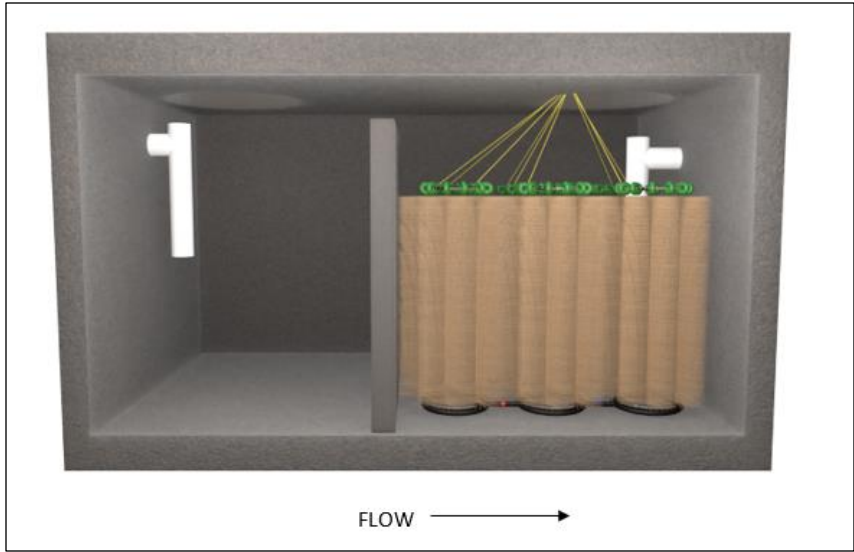

Figure 16, Finish Stack of Bio-Brushes
4. After all clusters are unpackaged, systematically raise each bio-brush vertically from the tank floor (Figure 16) and feed each of the yellow float ropes through the lid of the tank.
6. Continue to raise the bio brush clusters vertically until they are fully extended (Figure 16). Feed yellow ropes through lid of tank and temporarily anchor ropes.